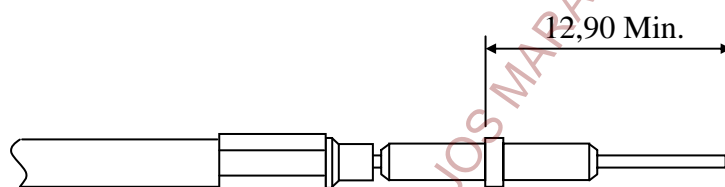

Figure 13 Finished Length
- The finished length is as specified in Figure 13.
3.10.2 If the contact is found to be below the minimum length specified in Figure 13 due to 'over polishing', it shall be rejected as the performance of the connector to which it is fitted will be unsatisfactory.